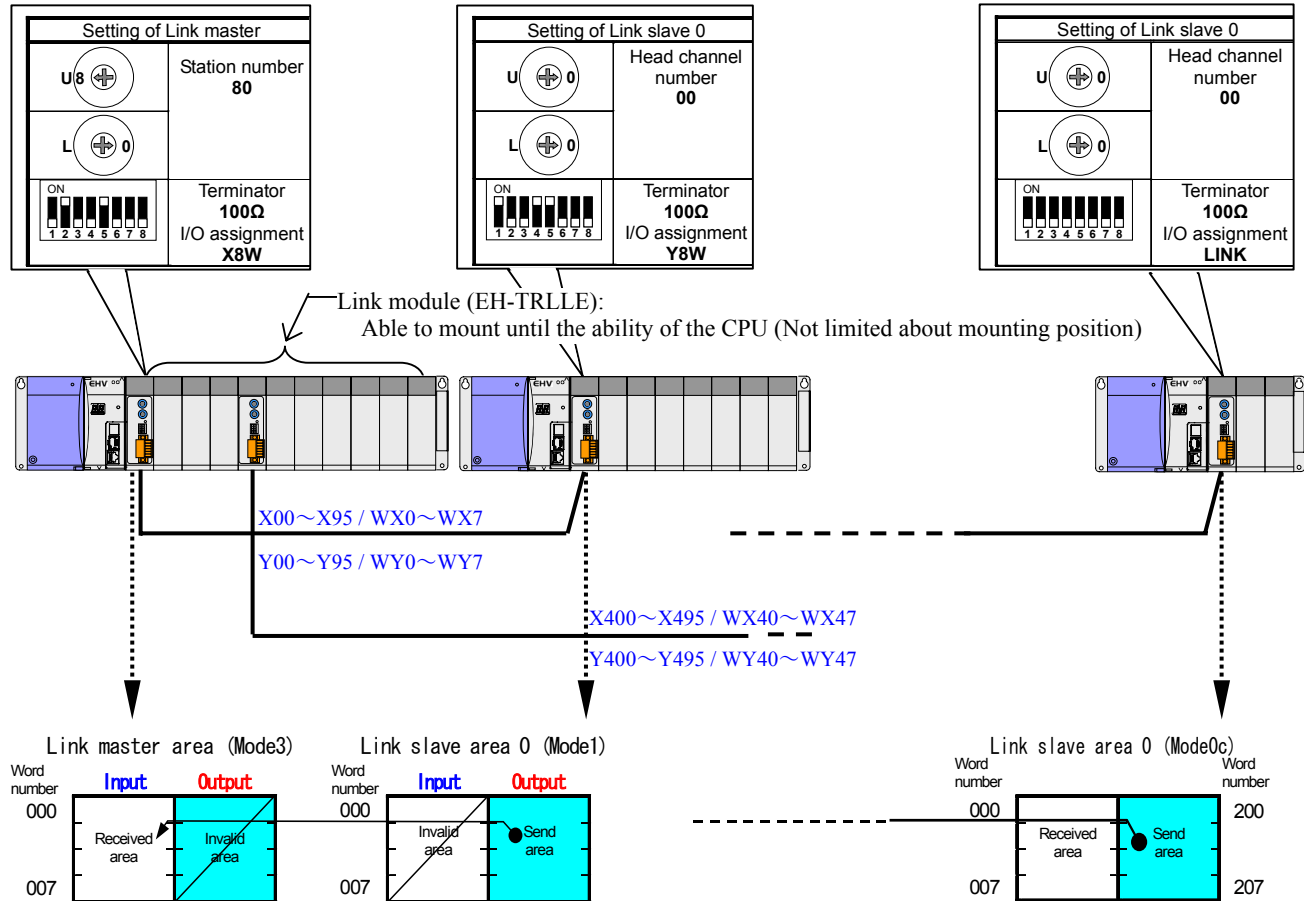

Figure 4.3.9 System configuration example (Master: Mode3)
Figure 4.3.9 is the system configuration example that master station is set to Mode3. Refer to section 3.1 for the setting method of the compatible mode.
- 2) When the slave station is set the rotary switches to the operation mode "Mode1", the head channel number is the head I/O number (in the case of figure 4.3.9: WY0), and the module occupies 8 channels from head channel.
- 3) When the slave station is set the rotary switches to the operation mode "Mode0c", the head channel number is the head number of the link area (in the case of figure 4.3.9: WL0), and the module occupies 8 channels from head channel. In this mode, the output area of the slave station sets the link area from WL200 to WL207 by link parameter. So, the input area owns link area from WL0 to WL7. There are the inputs of 128 points and the outputs of 128 points.